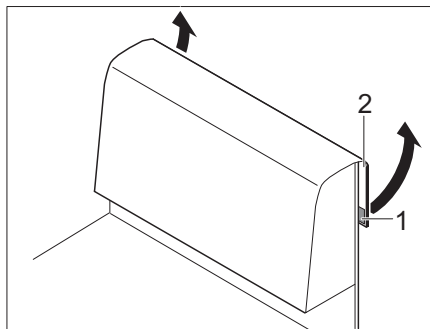

Fig. 65 Back cushion
- Loosen the Velcro fastener (Fig. 65,1) on the fabric flap (Fig. 65,2) at the back.
- Pull the fabric flap (Fig. 65,2) upwards.